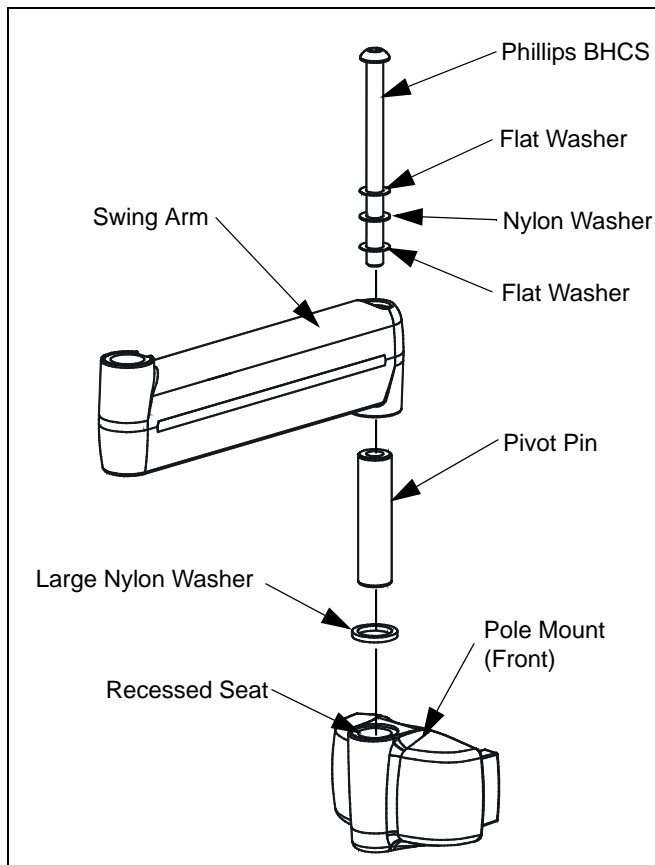

Figure 4: Install Swing Arm to Front Pole Mount
2. Place large Nylon washer into seat in pole mount front. (see Figure 4)
3. Slide pivot pin through large nylon washer and down into pole mount front. (see Figure 4)
5. Assemble two flat washers and one nylon washer onto button head cap screw. (see Figure 4)